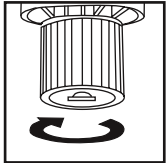

Fig. 3
3. Set the filter cap over the filter cartridge. Tighten turning the retaining handle in a clockwise direction. (Fig. 3)